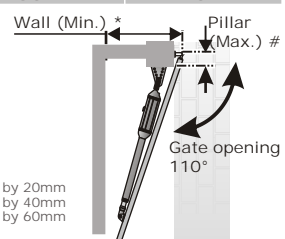

FIGURE 4. OVERALL DIMENSIONS
- Check that enough space is available for the gate operator with the gate in the required open position. (See Figure 4)